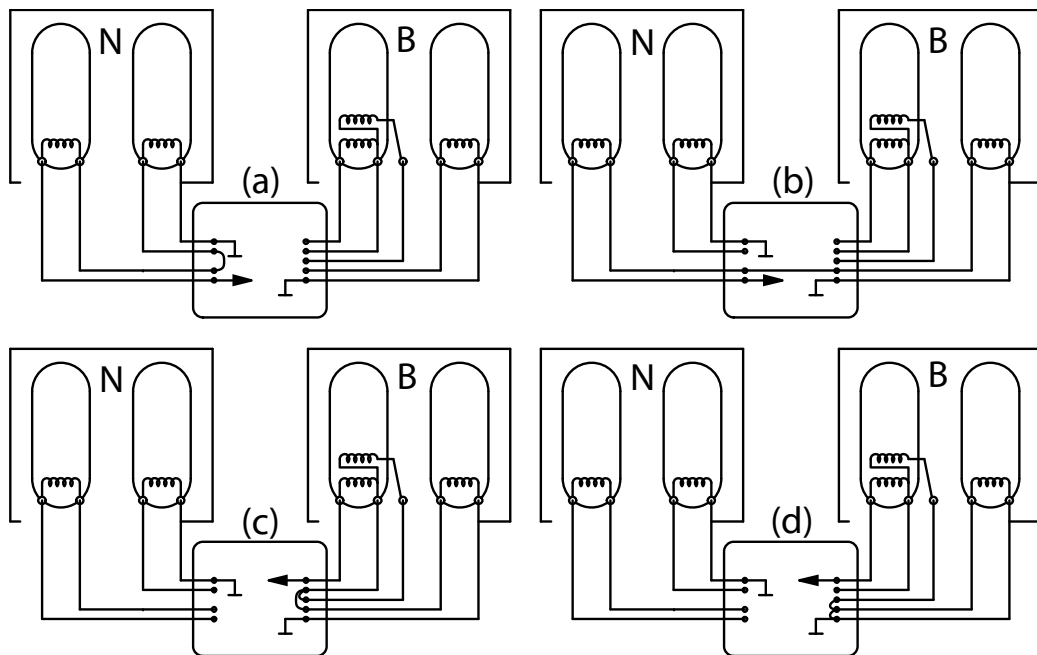

Figure 5 - Switching inside the PCB
- The pickups in this set are built so that their coils can be connected independently. The rotary switch, when moved to the Neck position, takes the two coils of the Neck pickup and puts them in series, which is the usual way that they are wired in most guitars (Figure 5(a)). It does the same thing for the Bridge position, constructing another series humbucker with the two coils of the Bridge pickup (Figure 5(c)). Again, this is the way that most guitars with humbuckers work for the pickup switch in the Bridge position. The difference comes with the Mid position (Figure 5(b)), because *in this case it takes a coil from the Neck pickup and a coil from the Bridge pickup and connects them in series*. The chosen coils are the ones farther apart, so that the resulting pickup is **another series humbucker**, so it has the same nature as the other two. An additional improvement is that **each one of the three positions of the switch has its own independent volume control (and independent tone if you want)**. This is completely different from the most usual two-humbucker wiring, where the mid position means that the two series humbuckers, Neck and Bridge, are connected in parallel, departing from the configuration of the other two positions. A derived problem is that all the volume and tone controls are connected in parallel also, which means that all of them interact, quite unimpressively.
- Additionally, there is a ESC (*Enhanced Single Coil*) circuit. It is activated by a switch (that you must supply) that permits to select either a Humbucker or a ESC for the bridge pickup. When in Humbucker mode, you'll have a full tone, almost free of hum (Figure 5(c)). In the ESC position (Figure 5(d)), the tone of the bridge pickup will be more clear and bright, although more prone to being affected by electromagnetic interference. Single coil pickups obtained by canceling one of the coils of a humbucker (as done here) are usually set aside, as they tend to be much weaker than real single coils. Nonetheless, if you look at the diagram below you'll notice that the ESC mode adds more turns on top of the active coil, **giving you the tone and punch that you expect from a real single coil**.